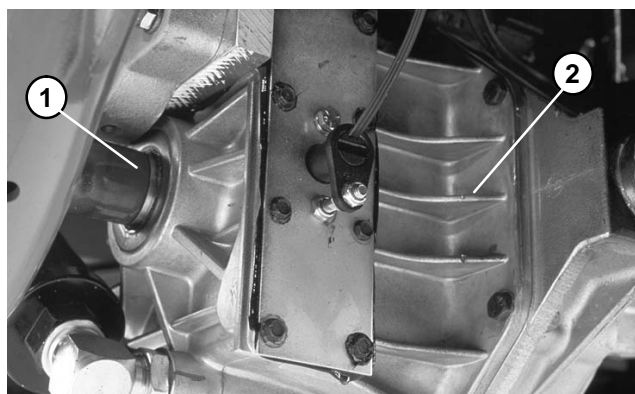

Figure 40
3. Start engine. Verify pinion shaft or traction shaft (4WD units) speed (RPM) with phototac. Check corresponding speed on the speedometer (Fig. 40 and 41).